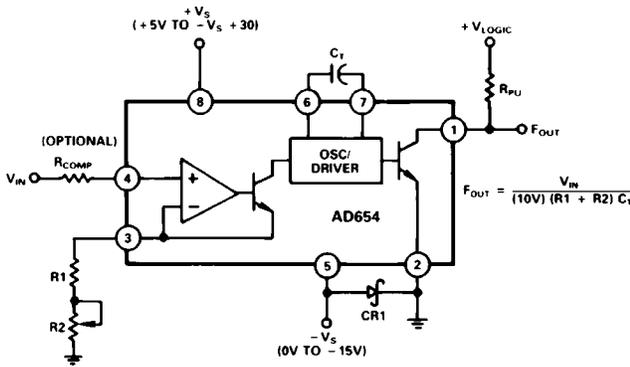

Figure 1. Standard V-F Connection for Positive Input Voltages
The AD654's block diagram appears in Figure 1. A versatile operational amplifier serves as the input stage; its purpose is to convert and scale the input voltage signal to a drive current in the NPN follower. Optimum performance is achieved when, at the full-scale input voltage, a 1 mA drive current is delivered to the current-to-frequency converter (an astable multivibrator). The drive current provides both the bias levels and the charging current to the externally connected timing capacitor. This "adaptive" bias scheme allows the oscillator to provide low non-linearity over the entire current input range of 100 nA to 2 mA. The square wave oscillator output goes to the output driver which provides a floating base drive to the NPN power transistor. This floating drive allows the logic interface to be referenced to a level other than -VS.
In the connection scheme of Figure 1, the input amplifier presents a very high (250 MΩ) impedance to the input voltage, which is converted into the proper drive current by the scaling resistors at Pin 3. Resistors R1 and R2 are selected to provide a 1 mA full-scale current with enough trim range to accommodate the AD654's 10% FS error and the components' tolerances. Full-scale currents other than 1 mA can be chosen, but linearity will be reduced; 2 mA is the maximum allowable drive. The AD654's positive input voltage range spans from -VS (ground in sink supply operation) to four volts below the positive supply. Power supply rejection degrades as the input exceeds (+VS - 3.75 V) and at (+VS - 3.5 V) the output frequency goes to zero.
As indicated by the scaling relationship in Figure 1, a 0.01 μF timing capacitor will give a 10 kHz full-scale frequency, and 0.001 μF will give 100 kHz with a 1 mA drive current. Good V/F linearity requires the use of a capacitor with low dielectric absorption (DA), while the most stable operation over temperature calls
for a component having a small tempco. Polystyrene, polypropylene, or Teflon\* capacitors are preferred for tempco and dielectric absorption; other types will degrade linearity. The capacitor should be wired very close to the AD654. In Figure 1, Schottky diode CR1 (MBD101) prevents logic common from dropping more than 500 mV below -VS. This diode is not required if -VS is equal to logic common.
The AD654 was designed to be used with a minimum of additional hardware. However, the successful application of a precision IC involves a good understanding of possible pitfalls and the use of suitable precautions. Thus  $+V_{IN}$  and  $R_T$  pins should not be driven more than 300 mV below  $-V_S$ . Likewise, Logic Common should not drop more than 500 mV below  $-V_S$ . This would cause internal junctions to conduct, possibly damaging the IC. In addition to the diode shown in Figures 1 and 2 protecting Logic Common, a second Schottky diode (MBD101) can protect the AD654's inputs from "below  $-V_S$ " inputs as